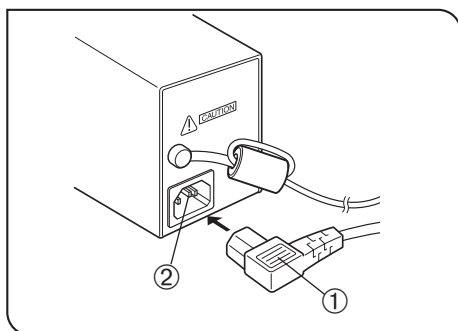

Fig. 42
Operation Using the TL4 Power Supply Unit (Fig. 42)
1. Insert the connector ① of the power cord firmly into the input connector ② of the TL4 (Fig. 42).